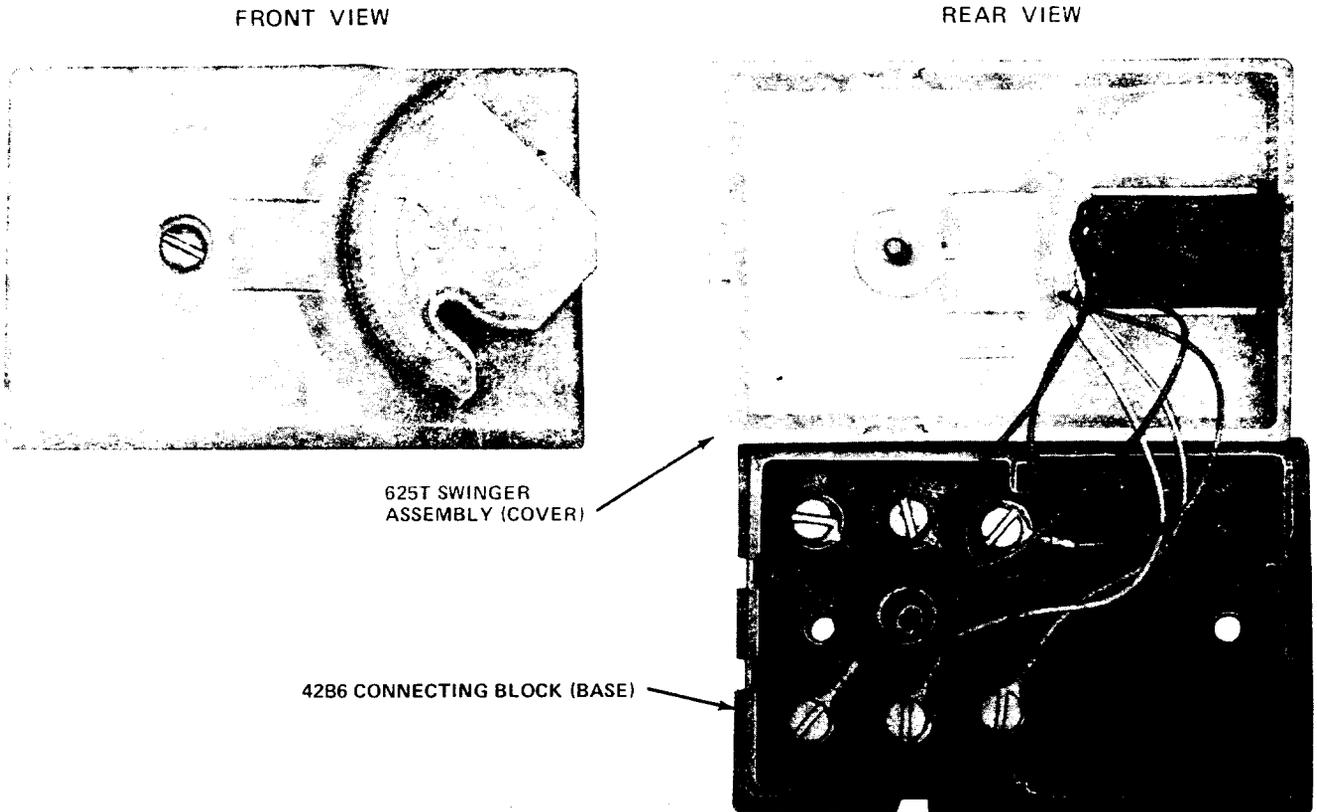

Fig. 12—625S6 Connecting Block
#### J. 625S6 Connecting Block (Fig. 12)
2.12 The 625S6 connecting block (Fig. 12) consists of a 42B6 connecting block (base), 625T swinger assembly (cover), and jack. It is intended for surface mounting and replaces the 74D (MD) connecting block. The spade-tipped jack leads provide the termination to the connecting block screw terminals. It is available in light olive gray (-49) and ivory (-50).
**3.11 625S6 Connecting Block:** Mount the 42B6 connecting block (base) on a wall (preferred) or a baseboard. Terminate station wire and dress the 625T6 swinger assembly (cover) jack leads as shown in Fig. 12.